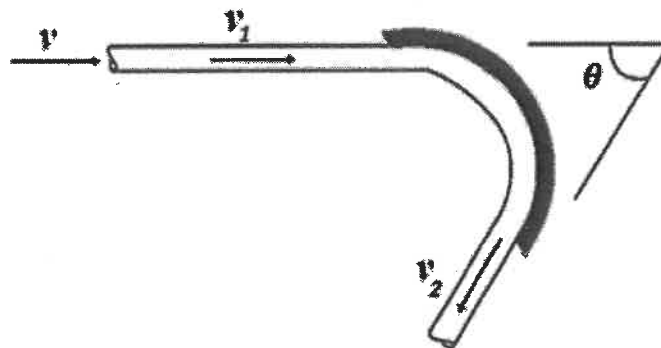

Figure 6
- (b) A water jet of 50 mm in diameter in Figure 6 is discharged from a nozzle with a velocity of 8 m/s strikes a curved turbine blade that deflects at an angle of 40° . The density of the water is 1000 kg/m^3 . Calculate the x and y components of the force on the fluid.